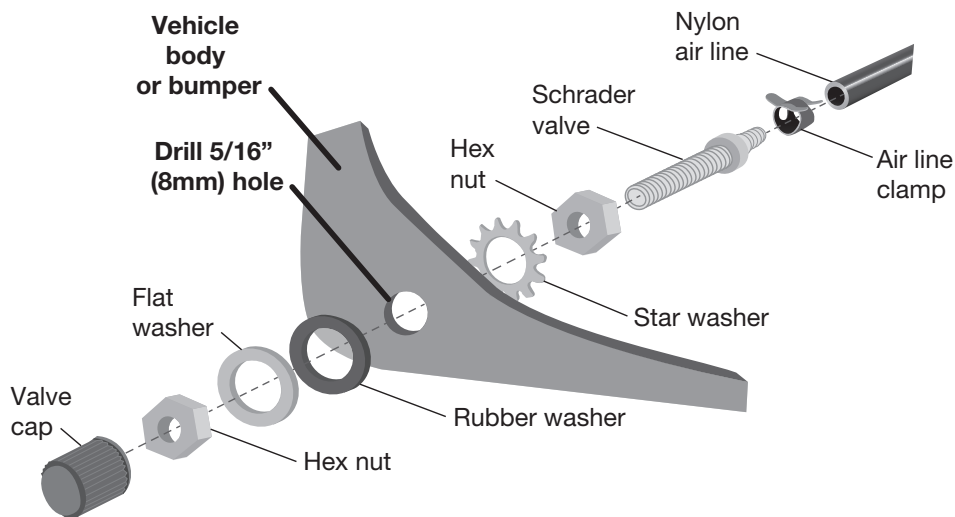

Fig. 13
6. Drill a 5/16" (8mm) hole for the Schrader valve (K) and mount as shown (Fig. 13). Install the air line on the Schrader valve first. The rubber washer (G) serves as an outside weather seal.